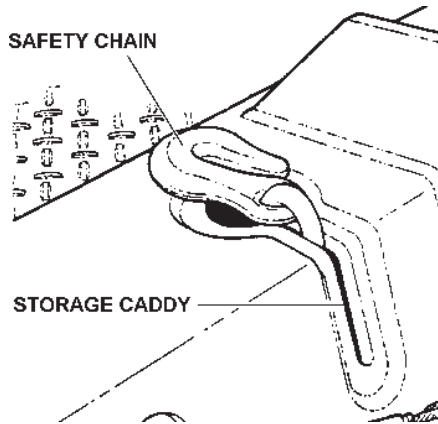

FIGURE 3.7
- 3.9** Always use Safety Chains on all towing and lifting applications. The safety chains are located on the top rear of the wrecker body. See Figure 3.7. Refer to Section 4.8 for proper safety chain procedures.